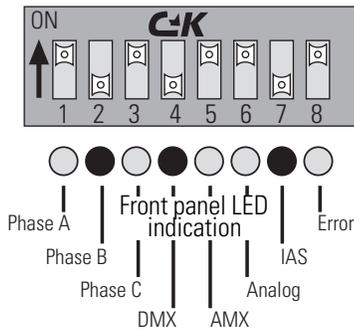

Figure 11: Status LED internal Dip switch position
2. The status LEDs show the internal DIP switch settings (See Figure 11.)